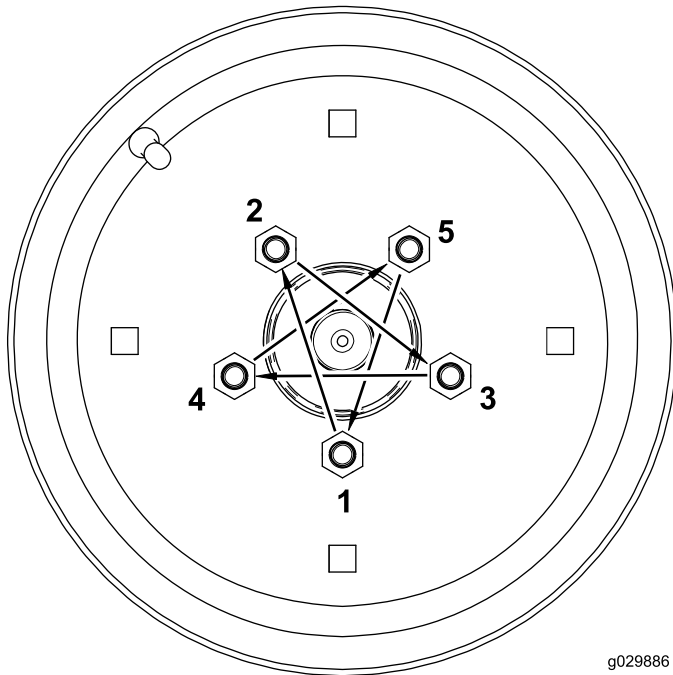

Figure 20
2. Torque the lug nuts to 101 to 115 N-m (75 to 85 ft-lb) in the following order (Figure 20).